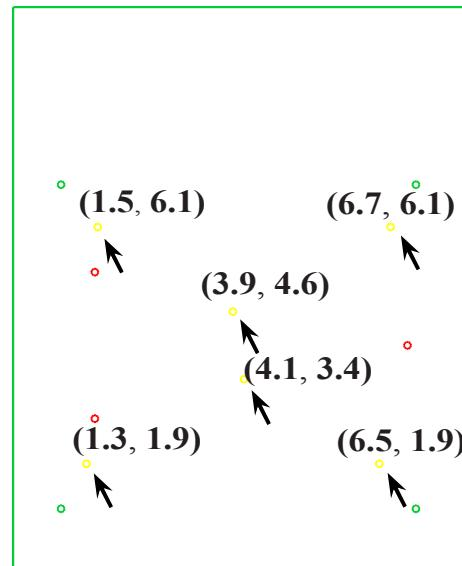

Fig. 8
- Step 7. Key-in the X, Y coordinates into the **Fast Point**  Lid Screw Holes, Fig. 8